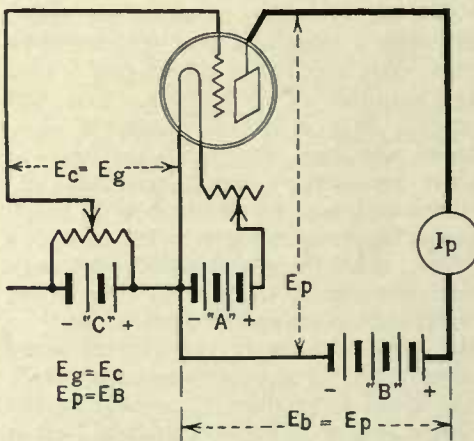
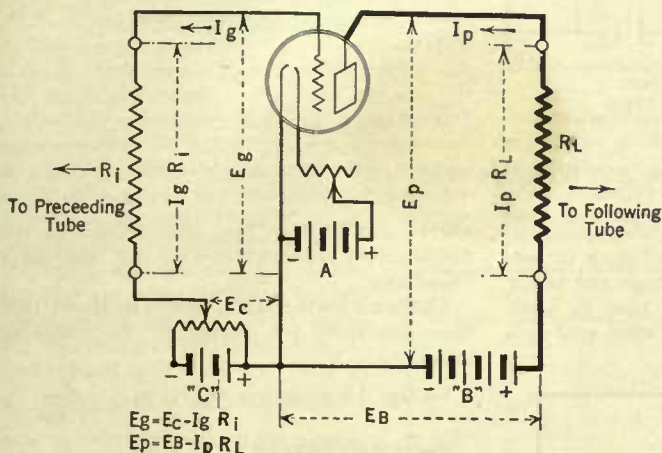
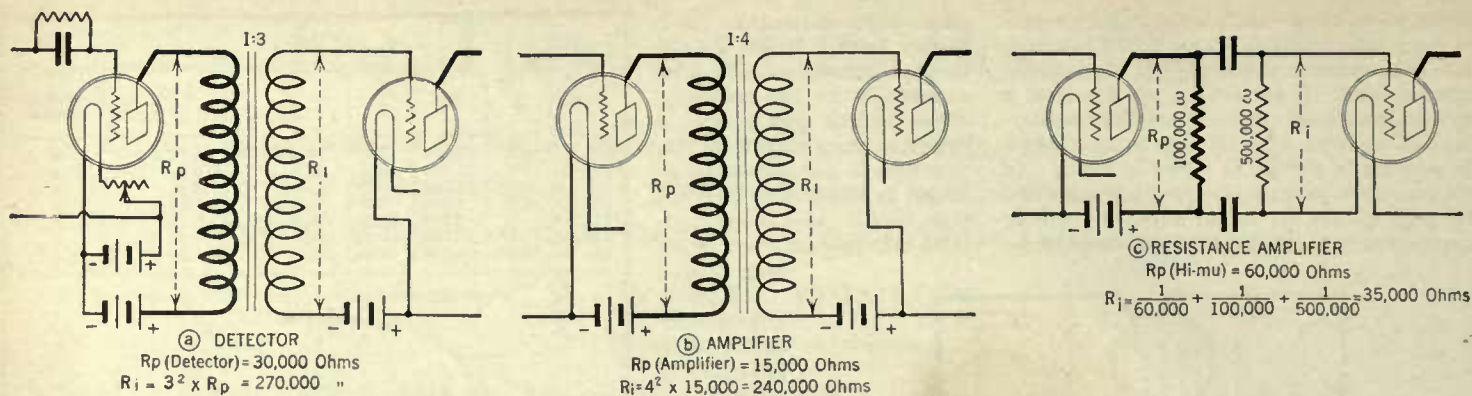
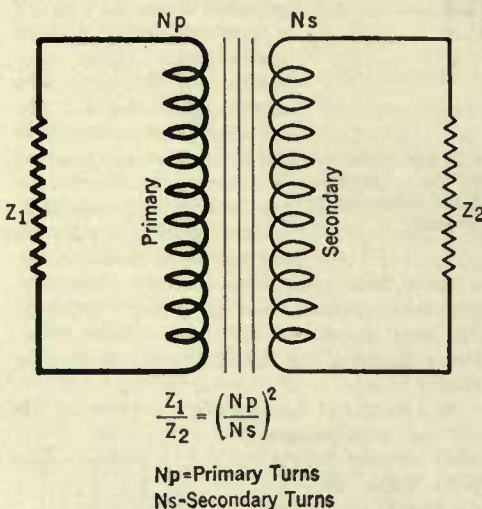

FIG. 1
FIG. 3
FIG. 4
FIG. 5
ASIDE from the tube and its accessory batteries, all that is necessary to measure static characteristics of tubes, which show in the form of curves the relations between grid, plate, and filament voltages and the corresponding currents, is a good voltmeter of double range, 0-10 and 0-100 volts, and a good milliammeter, and any one in his home laboratory can have many hours of enjoyment studying tubes by means of these instruments. With such apparatus diagrammatically represented in Fig. 1, let us carry out the following procedure:
Therefore, if we insert into the grid and plate circuits of the tube under test, a resistance approximating the impedance into which the tube normally looks we shall have the conditions of test more nearly like those occurring in practice. Fig. 3 contrasted with Fig. 1 shows these additions, and Fig. 4 the method of calculating the input and output resistance. The tube normally looks back into the output impedance of a similar tube which is "stepped up" by the square of the turn ratio of the connecting transformer. Fig. 5 shows how two differing impedances may be coupled together by means of a transformer. In this case Z_1 may be the output impedance of a semi-power tube and Z_2 the impedance of a loud speaker. If the turn ratio of the transformer obeys the formula
about 30,000 ohms—and coupled to it by means of a 3:1 ratio transformer, the tube looks back into approximately $30,000 \times (3)^2$ or $30,000 \times 9 = 270,000$ ohms. If the tube is the second of a two- or three-stage resistance amplifier employing high- μ tubes, the tube looks back into three impedances in parallel as shown in Fig. 4. In the case of the last tube in a set which works into the loud speaker, its output impedance will be approximately matched by the impedance of the
In Fig. 3 R_L and R_i represent the combined impedance of the tube and the connecting apparatus looking away from the tube under test.
Under these conditions, shown in Fig. 3, somewhat different curves result when one plots plate current against change in grid volts. In this case the plate voltage is not the B battery but is less by the drop in the load resistance, and the voltage actually applied to the grid is not the same as the C battery but is less by the drop in the input resistance—when the grid goes positive.
Consideration of the curves in Fig. 5 and those in *Popular Radio* already mentioned show that the greater the impedance in the plate circuit the straighter will be the characteristic. Some loud speakers have very little impedance at low frequencies so that the curve worked over is not straight but curved and a peculiar distortion results when bass viols, or kettle drums are played. The remedy lies in a lower impedance tube, say one of 4000 ohms, and some tube manufacturers are making preparations to supply such tubes. They will necessarily have a low amplification factor and will draw considerable plate current but will be capable of delivering considerable power. Output transformers useful in overcoming this type of distortion are manufactured by the General Radio Company, and are designed to couple low impedance speakers of the cone type to 201-A tubes and to low impedance power tubes.
and $\frac{\mu}{\sqrt{R_p}}$ and knowing the input impedance as figured in Fig. 4 and the voltage that is being placed on the grid of an amplifier, it is a simple matter to compute the power and voltage amplification and the actual power output in watts delivered to a loud speaker. It has already been mentioned that a reasonable amount of power to require from an amplifier is .06 watts which will give a good comfortable signal from an average loud speaker of the cone type without overloading distortion.